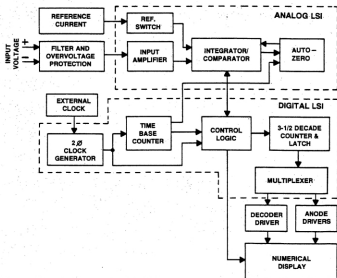

Figure 5-4. A/D Converter Block Diagram
5.3.1 The basic block diagram of the A/D Converter is shown in Figure 5-4. The analog-to-digital conversion is accomplished by the quantized Charge-Balance technique. An Auto-Zero circuit minimizes the effects of offset and drift for greater accuracy. Filtering and Over-Voltage Protection circuits are provided at the input to the A/D Converter.